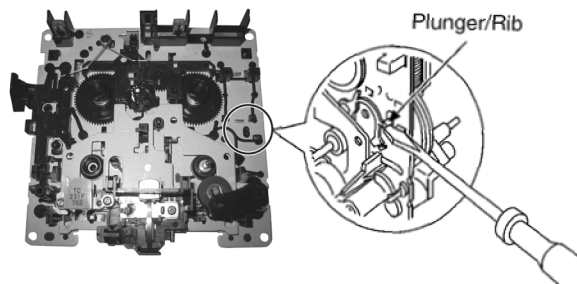

Fig. 3
3. Lift up the mechanism unit's plunger/rib with the tip of a negative screwdriver, and operate the unit in the same timing as supplying the power. (Fig. 3)